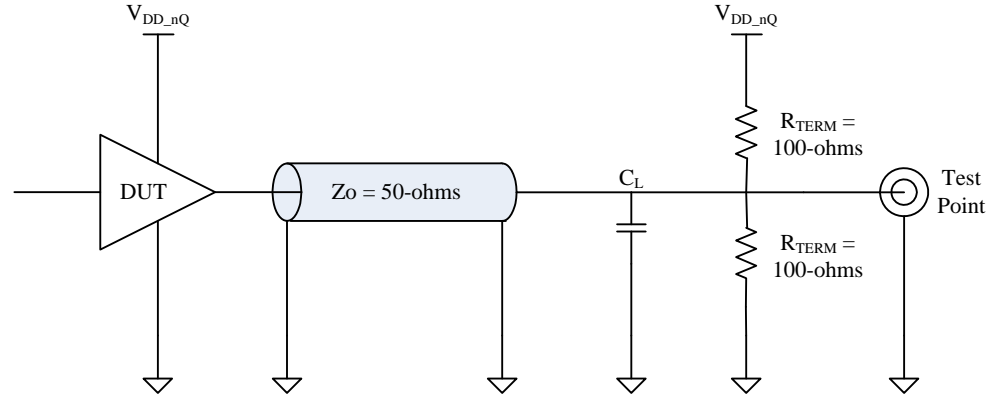

Figure 10B. Thevenin Terminated LVC MOS/LVTTL Test Circuit
1. All outputs are equally loaded. See figure 10B.
1. When measuring the dynamic supply current, all outputs are disconnected from the equivalent test load defined in figure 10B.